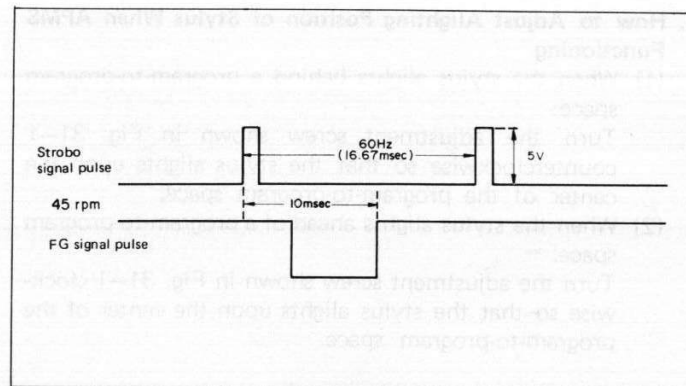

Figure 32-1
- (1) Put the speed selector switch in the "45 rpm" position, and adjust the semi-variable resistor VR5 so that the strobo signal pulse (No. 24) and frequency generator's (FG) signal pulse (the terminal (TP)) be as shown by Fig. 32-1.